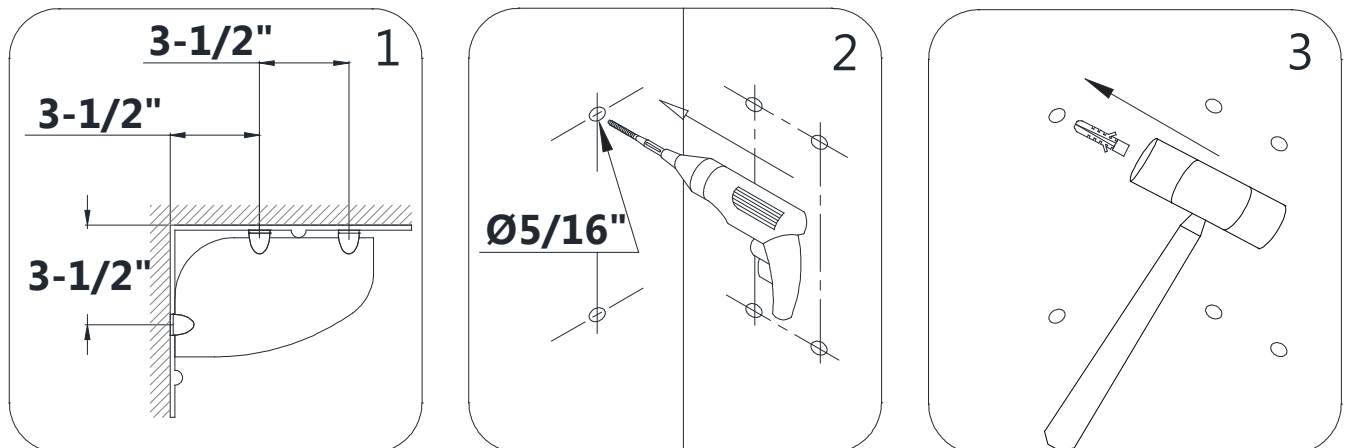

Fig 26
26. Mark the location for the **Shelf Brackets (#10)** according to the measurements in Fig 25.1. Drill the holes using **Ø5/16"** drill bit and insert the **Wall Anchors (#06)**. **(Fig 26)**